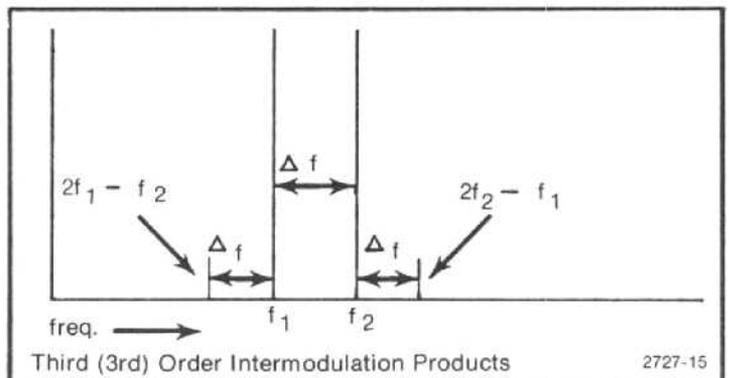

Figure 4-16. Intermodulation products.
d. Check — that third order intermodulation products (see Figure 4-16) are 70 dB or more down from the input signal level.